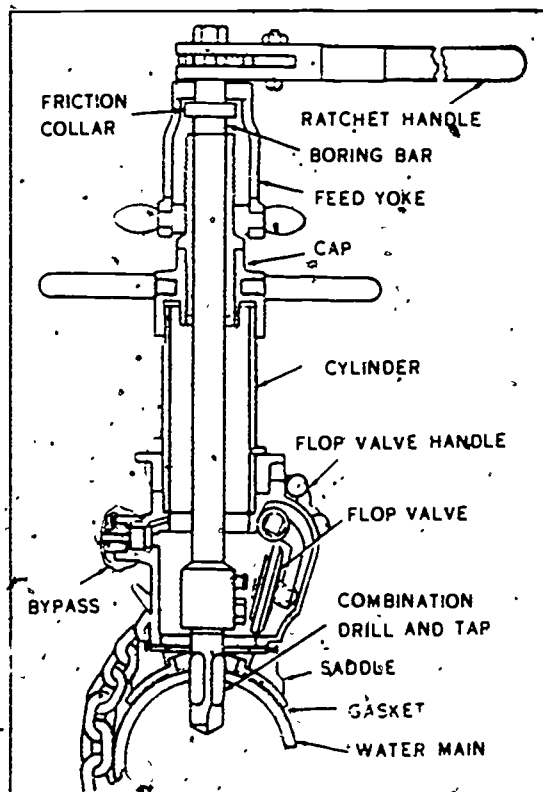

Figure 1-21 Water main self-tapping machine.
**Tapping the Water Mains.** After the trench has been dug to the main, a corporation stop can be installed while the main is under pressure by using the water main self-tapping machine illustrated in figure 1-21. A 1-inch tap is the largest opening that can be made while the main is under pressure. Ninety pounds is the maximum pressure that can be tapped against with a water-tapping machine. It is important that you understand the operation of the machine before attempting to tap a main under pressure. The tap should be located as near the top of the water main as possible. Clean the rust and dirt from the main at the point where the tap is to be made. Place the machine gasket on the main and mount the tapping machine